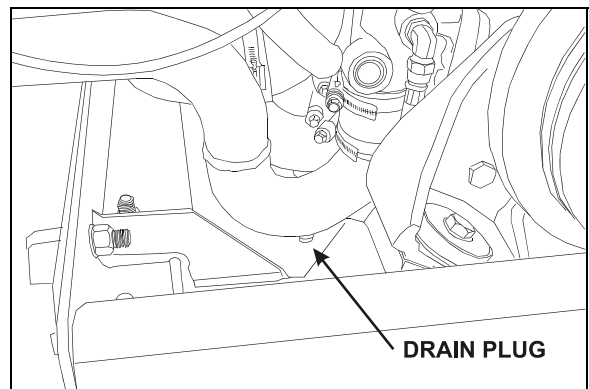

FIGURE 10: WATER PUMP DRAIN PLUG 05072
3. Unscrew the water pump housing inlet line drain plug (Fig. 10).